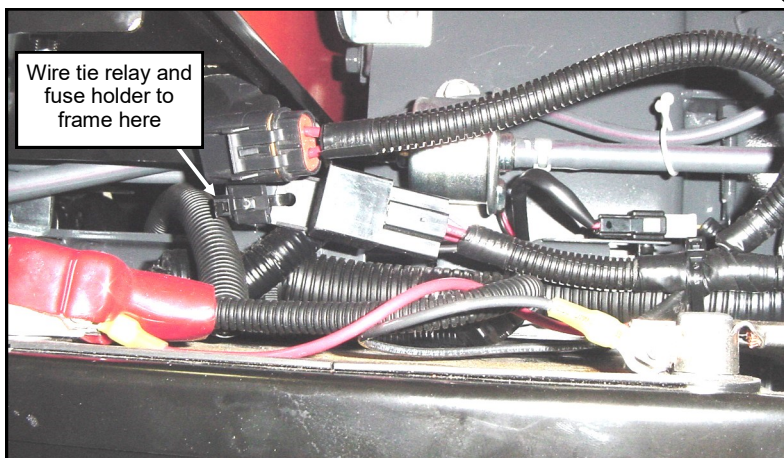

Fig. 2.2: Relay harness to battery connection
- 2.2 Using a wire tie, secure the relay and fuse holder of the relay harness to a hole in the frame, above and forward of the battery, as shown in figure 2.2.